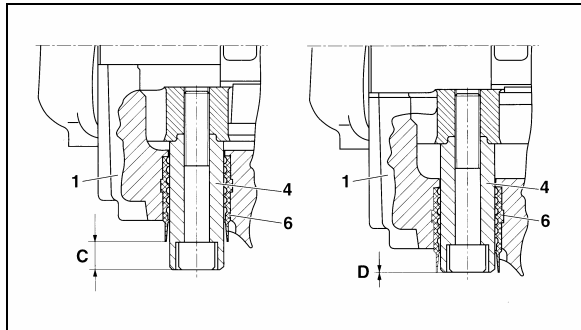

FIGURE 24: BRAKE PAD CHECK
Brake pads have to be checked on a regular basis depending on the vehicle operation. The remaining thickness of the pads should never be less than 3/32 in (2 mm). To check pad condition without removing the wheel, verify the position of guide bushing (6) relatively to guide sleeve (4) (see Fig. 24). When guide sleeve is in alignment with guide bushing, brake pad thickness has to be checked more precisely with the wheel removed. When replacing brake pads, all four pads on an axle have to be changed at the same time. There is no inner or outer pad,